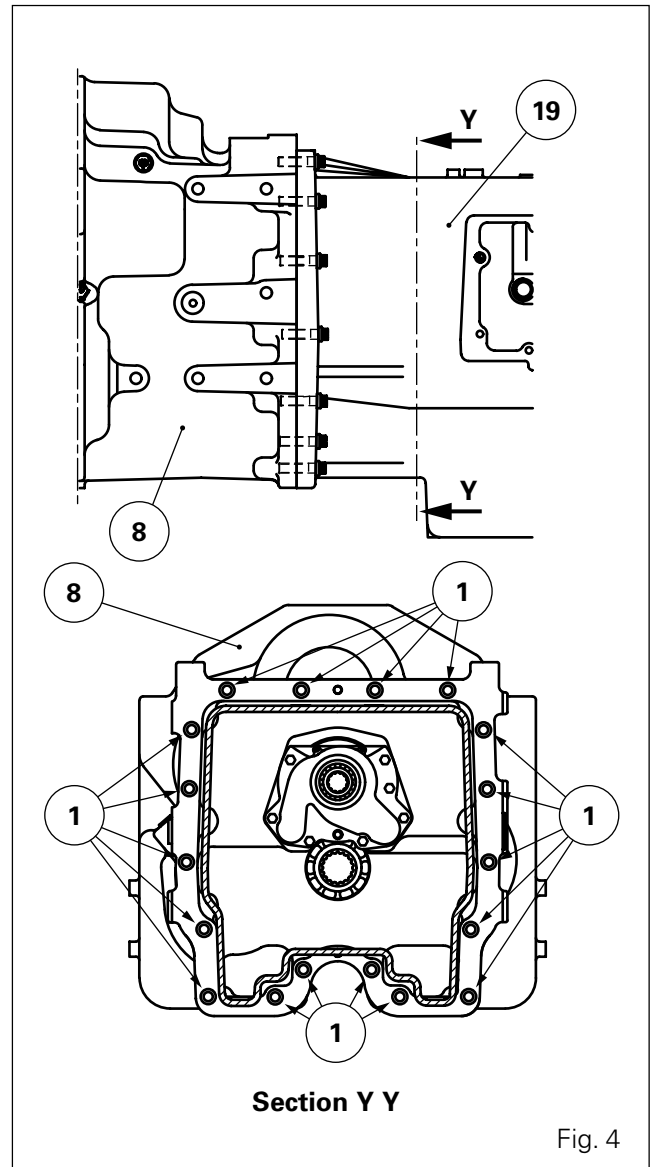

Fig. 4
36. Assemble gearbox (8) onto housing (19).
37. Remove the guide studs. Install screw (1) (Fig. 4) and torque to 240 - 320 Nm.